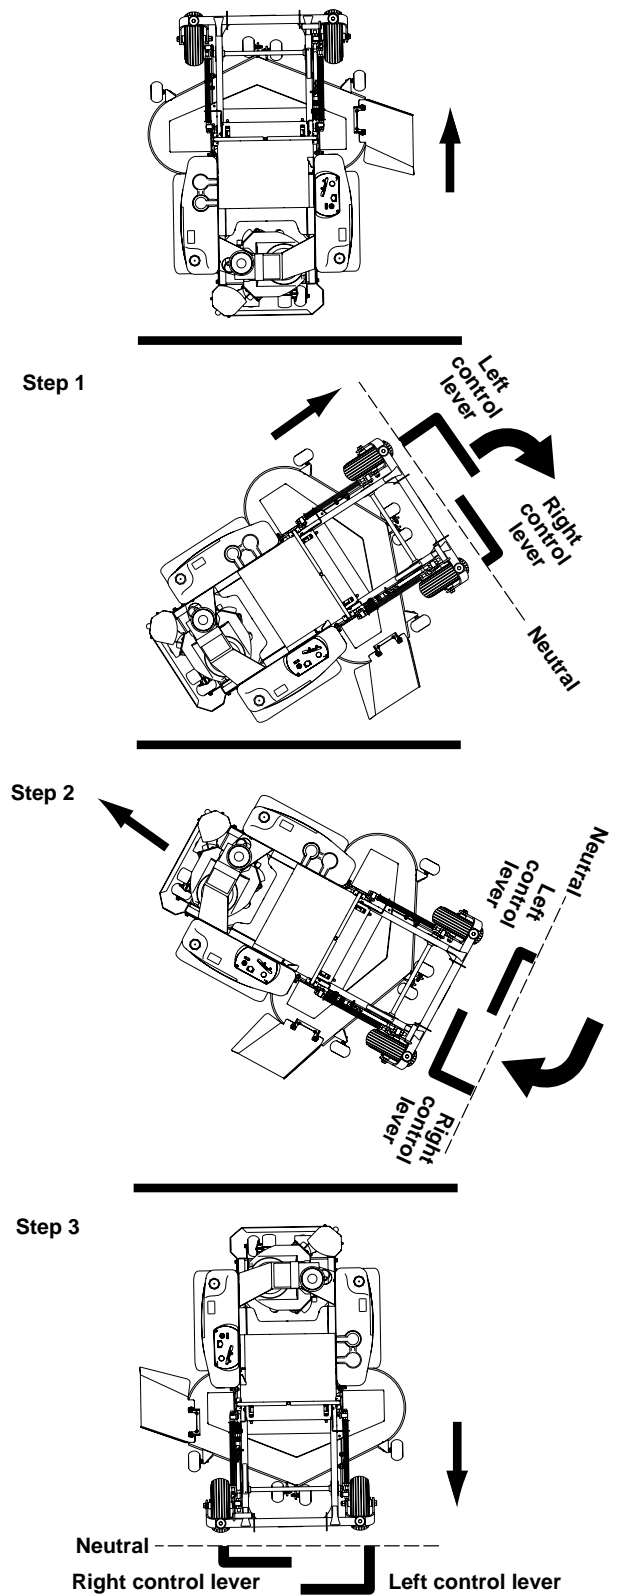

Figure 3-10
**To make a three point turn to the right**, move the left steering control lever farther forward from neutral than the right steering control lever and start the turn. Next, pull back on the steering control levers until they are past neutral and the machine starts to go rearward. Pull the right steering control lever farther rearward from neutral than the left steering control lever until the rear of the machine has pivoted around. Then, push the steering control levers forward until they are both past neutral and the machine starts to go forward. Push the left steering control lever farther forward from neutral than the right steering control lever and finish the turn. (Figure 3-10)